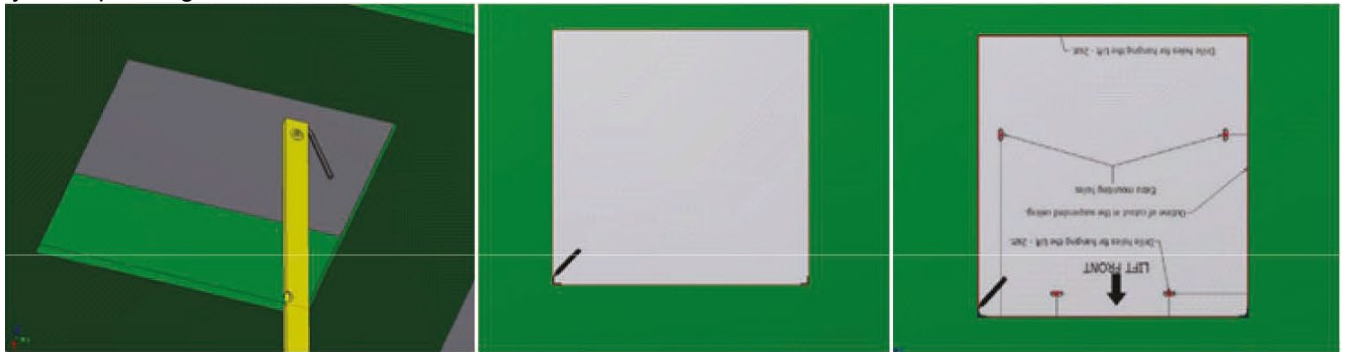

fig. 4a 1 2 3
2. Using the provided template mark the places for drilling holes to place the lift brackets. You need only 4 holes. The remaining 2 are optional. (fig. 4a, 4b).